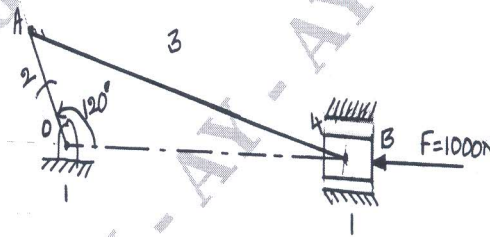

Fig Q1(b)
- b. A slider crank mechanism is shown in Fig Q1(b). The force applied to the piston is 1000N when the crank is at  $120^\circ$  from IDC. Determine the input torque, T on the link OA for the static equilibrium of the mechanism for the given configuration.